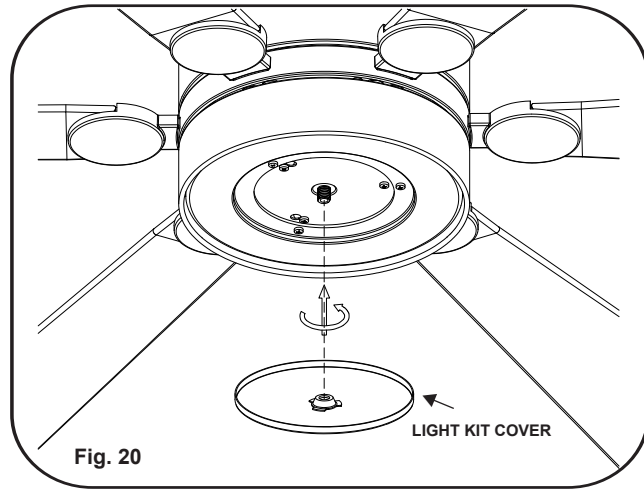

Fig. 20
Step 3. Raise the light kit cover up to the fan, seat against the mounting plate, and turn clockwise into the mounting plate until snug, **DO NOT OVER TIGHTEN.** (Fig. 20)